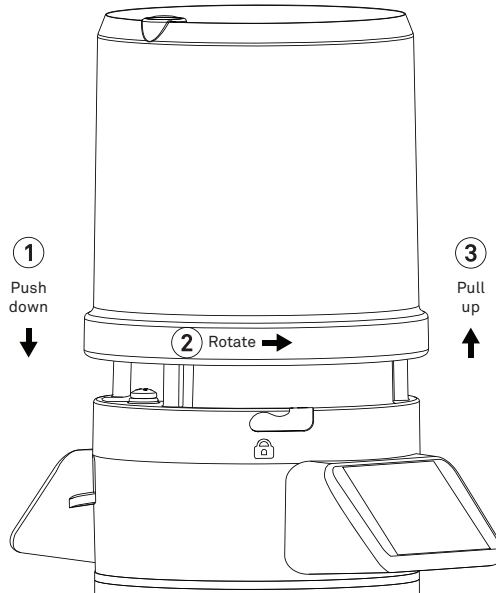

Figure 15 Removing ATMOS 41W rain funnel
3. Twist counter-clockwise to unlock from the ATMOS 41W base until the lock/unlock graphic located on the side of the rain gauge funnel is lined up with the notch on the interface plate (Figure 15).